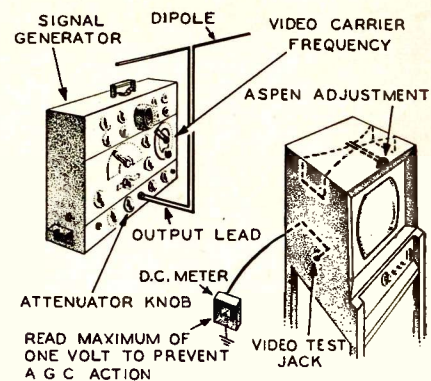

Fig. 7. Aligning Philco antenna
1. Connect a dipole through a 72-ohm coaxial cable to the output of a suitable AM signal generator having a band range covering the television channels. For instance, the Philco Model 7008 Precision Visual Alignment Generator, as shown in *Fig. 7*, provides an efficient signal generator for such TV servicing. It should be mentioned that the dipole used for this purpose may be merely two clip-leads of appropriate length.